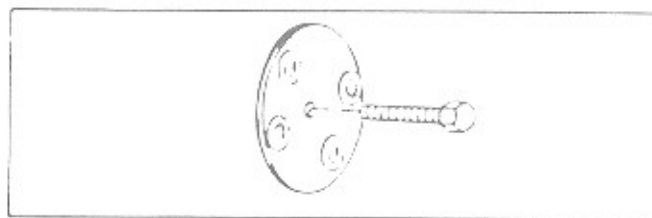

Figure 1-3. Shipping Bolt Removal
1. Remove the CD changer mechanism shipping bolt from the back of the phonograph cabinet (*see figure 1-3*).